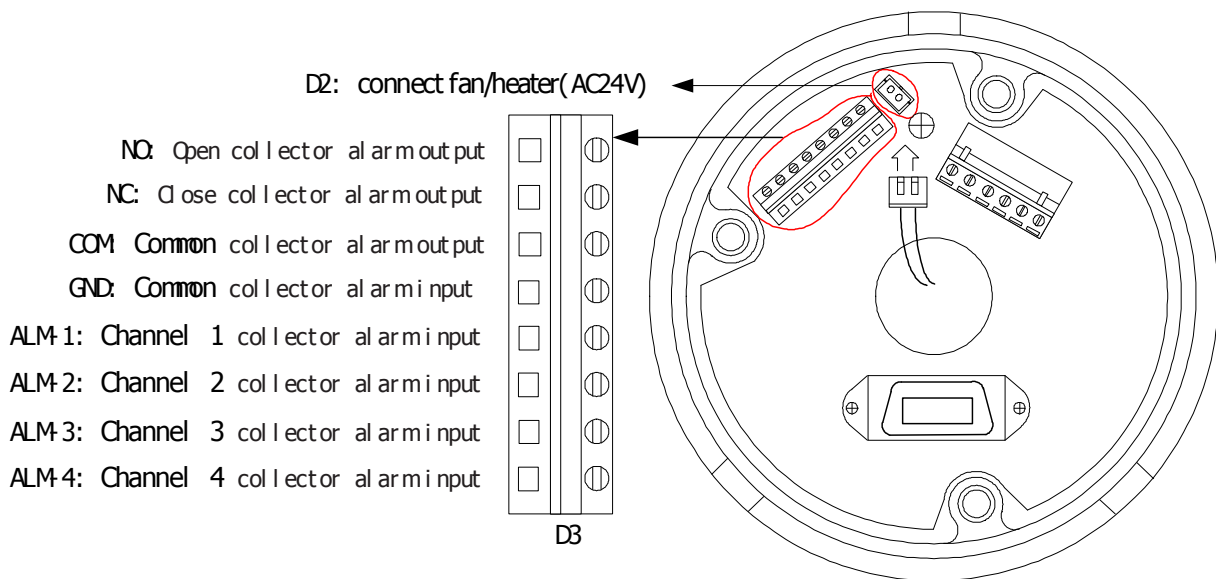
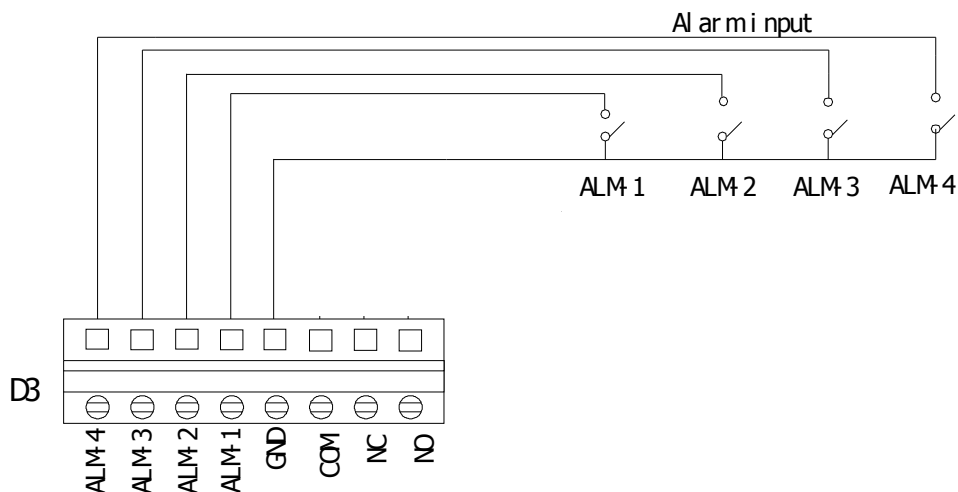

Figure 15-1
Figure 15-2
- 10) Insert attachment plug into socket D2 on the aluminum alloy assembly. Refer (Figure 15-1).
Refer to Fig 15-1 to locate the D3 connector. You will need to decide how many alarm channels will be utilised. For each alarm channel you will need a pair of cable connections and it is recommended that a CAT5 twisted pair be utilised. Connect one core to the selected input alarm channel and the other to the ground (GND) connection. The ground is a common connection for all four alarm channels. At the alarm end (see Fig 15-2) connect to the alarm device. This must be a 0 volt switch and maybe for example a door switch. Check that the alarm device passes a voltage free switch as any other input signal may damage the dome.